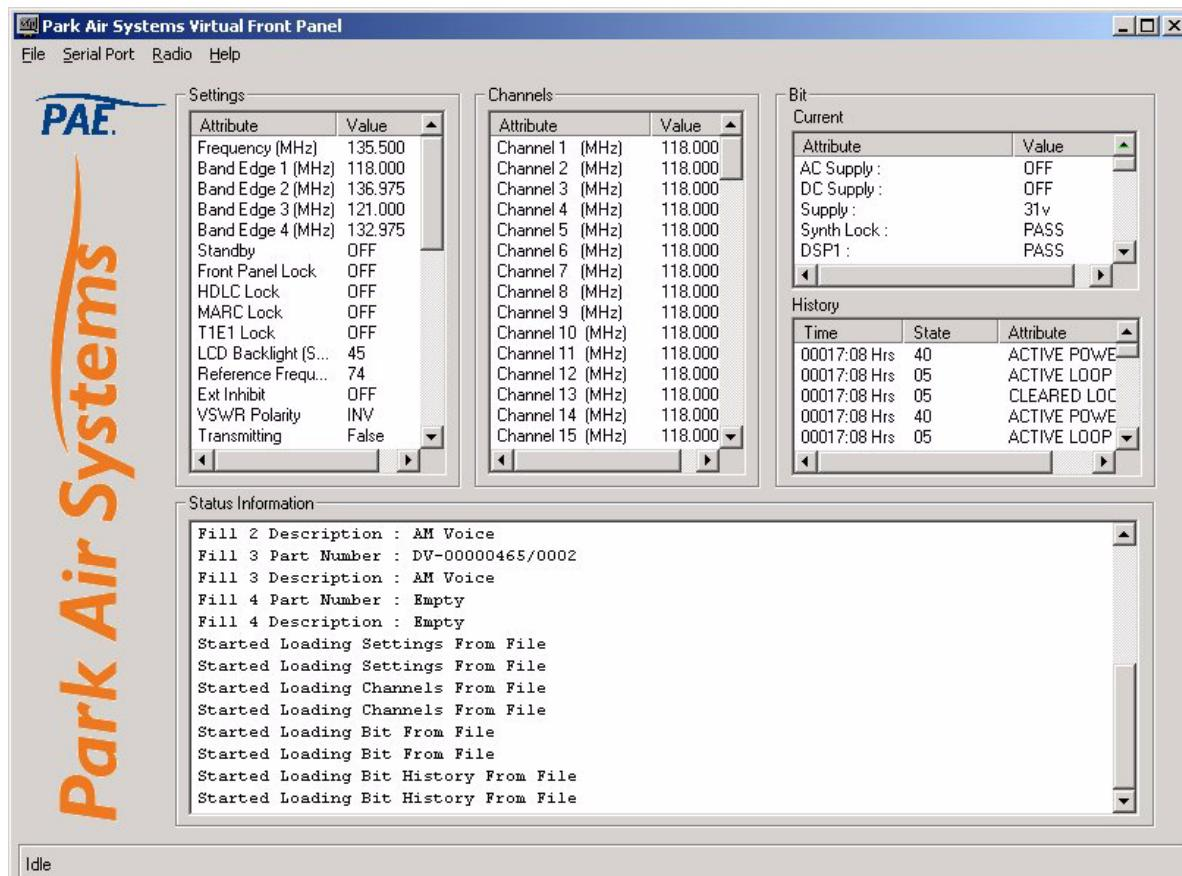

Fig 2 Typical VFP Screen - AM-Voice Profile Shown
- Front Panel Lock is available only when using the VFP. As part of the transmitter's Settings (see Fig 2), Front Panel Lock can be set to ON. When selected to on, no settings or frequency information can be changed from the front panel